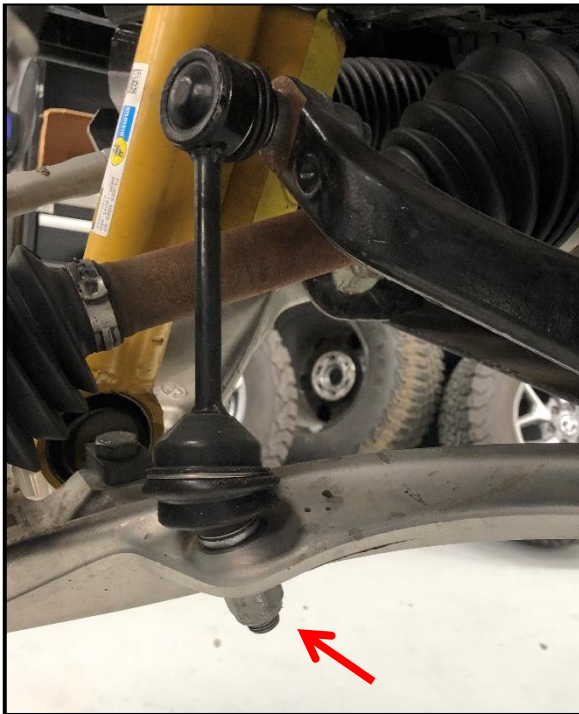

Figure 2
3. Remove sway bar nut using a 21mm socket (**Figure 2**).